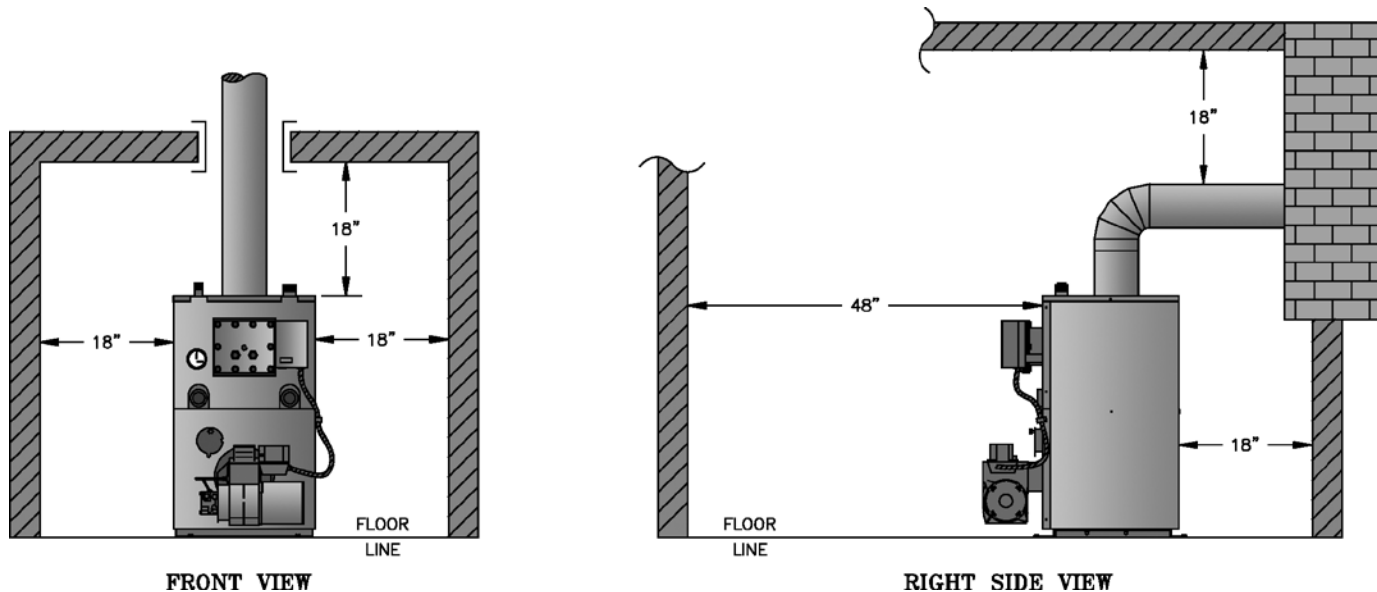

Figure 2: Minimum Clearances to Combustible Materials
For minimum clearances to combustibles materials. See Figure 2.
- 4) Set boiler squarely on top of shield such that base plate of boiler rests flat on top surface of shield and does not over-hang shield on any side. Confirm clearance to combustibles walls. Refer to Figure 2.
- 5) Do not enclose boiler (including shield) on all four sides. Boiler may be enclosed on any three sides while maintaining minimum clearances shown in Figure 2 for each of those three sides.